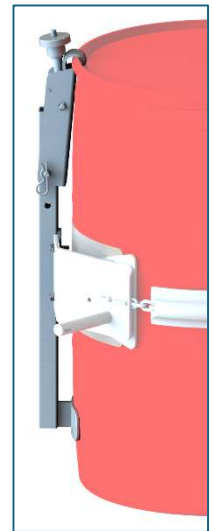

Figure 2.2
2. **Stainless Steel Top Rim Clamp Kit 4560BSS-P** to handle a RIMMED plastic drum (figure 2.2). Install the Top Rim Clamp Kit to handle a RIMMED plastic, steel or fiber drum with suitable top rim.